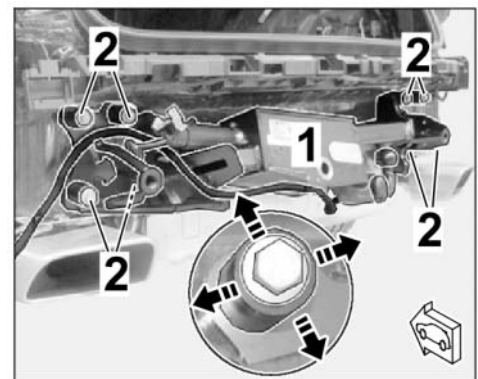

Figure 5
2.1.2 Align bolt guides for the trailer hitch (8 x) symmetrically with respect to the 8 bolt heads (M12 x 1.5 x 90) (⇒ *Figure 5 -inset-*).